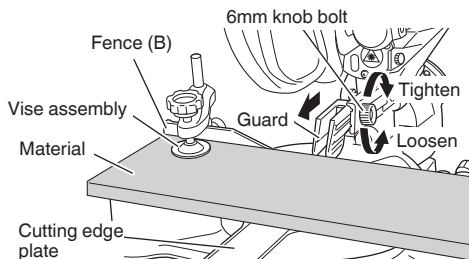

Fig. 21
- (1) Press a material with a height of about 15 mm and a width of about 300 mm against the fence surface and fix it with the vise. **(Fig. 21)**
- (2) Loosen the 6 mm knob bolt and abut the guard against the material to fix it. **(Fig. 21)**